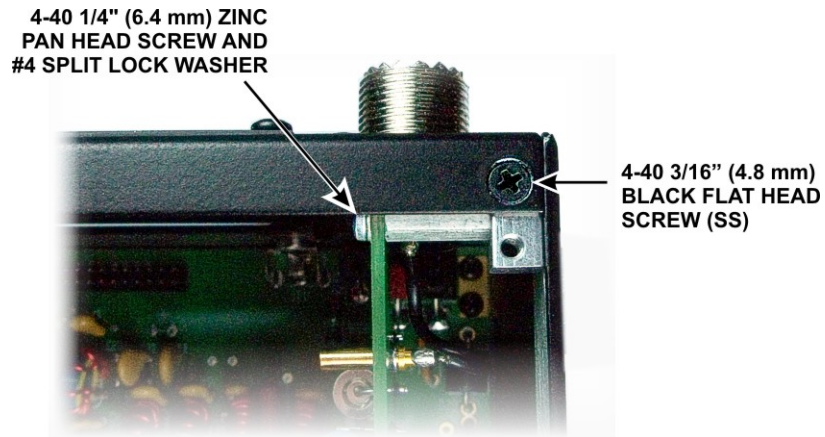

Figure 74. Installing KANT3/KAT3A Mounting Screw.
Mount the KANT3 or KAT3A board to the standoff on the side panel with a 4-40 1/4" (6.4mm) zinc pan head screw and a #4 split lock washer under the screw head as shown in Figure 74. **Do not place a washer between the board and the standoff.**
Install a 4-40 3/16" (4.8 mm) black flat head screw (SS) to secure the top of the rear panel to the 2D fastener as shown in Figure 74.
. When properly positioned, the rear panel should fit snugly against the inside edge of the side panels as shown in Figure 74. Verify the fit is correct against the side panels at both ends of the rear panel. If necessary loosen the 2D fastener screws enough to adjust the position of the panels. .